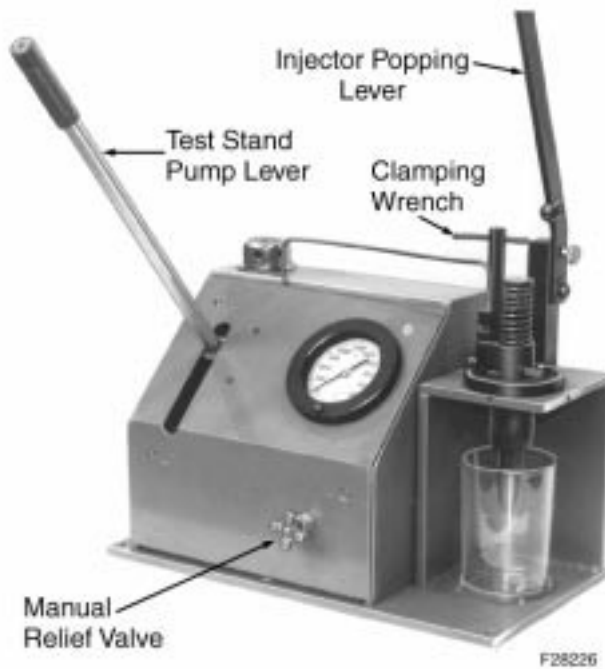

Figure 11-7. MUI Injector Tester .
These instructions cover the testing of all needle valve injectors using the tester shown in Figure 11-7., “MUI Injector Tester” on page 11-8. The procedures are not applicable to other types of testing equipment, since injector leakoff rates vary greatly in proportion to the volume of fuel contained in the high pressure portion of the tester.
Install the test block in place, or an MUI injector, in the tester and pump up pressure to 13 790 kPa (2000 psi), as indicated by the gauge. After five minutes, the pressure should not have dropped below 13 618 kPa (1975 psi). Release the block and recheck at 3 448 kPa (500 psi) and 6 895 kPa (1000 psi). These pressures should hold one minute with no apparent gauge drop. Make these tests with the manual relief valve, Figure 11-7, open all the way. If the tests are satisfactory, all injector tests may be made without using the relief valve. If the preceding tests indicate leakage, repeat the tests, closing the relief valve before timing the leakoff rates. If the tests are satisfactory with the relief valve closed, it will be necessary to use the manual relief valve when making the injector holding pressure test.
4. “Pop” the injector with the popping lever, Figure 11-7., “MUI Injector Tester” on page 11-8, using approximately 40 smooth even strokes per minute. A finely atomized spray should show at each of the holes in the tip. Rapid closing of the needle valve should produce a sharp “chatter.”
2. Manually hold the tester fuel line block on the injector. Pump until fuel is discharged from filter cap on opposite side, to remove air. Once injector is full of fuel, clamp tester line to injector with clamping wrench, as shown in Figure 11-7., on page 11-8.
3. MUI injectors should be qualified on the pressure test by timing the interval for a drop in pressure from 13 790 kPa (2000 psi) to 10 342 kPa(1500 psi). If this interval is less than 20 seconds (used) or 30 seconds (new or reconditioned), repeat the test, but close the manual relief valve immediately after establishing the 13 790 kPa (2000 psi) pressure. This is to ensure that the leakdown time is not being affected by the possible leakage in the tester itself. If the timed interval for the pressure drop from 13 790 kPa (2000 psi) to 10 342 kPa (1500 psi) is still less than 20 seconds (used) or 30 seconds (new or reconditioned), the injector should be rejected. To relieve the pressure before removing the injector from the tester, wrap a cloth around the injector fuel line connections and back off on the clamping wrench, Figure 11-7., on page 11-8.
2. Place injector in tester, but do not attach the fuel line. Place rack in the full fuel position and pump all the fuel out of the injector with injector popping lever, Figure 11-7., on page 11-8. When all of the fuel has been removed, depress the injector plunger to the full extent of its travel. Slowly release popping lever and simultaneously move injector rack repeatedly in and out through its full travel.